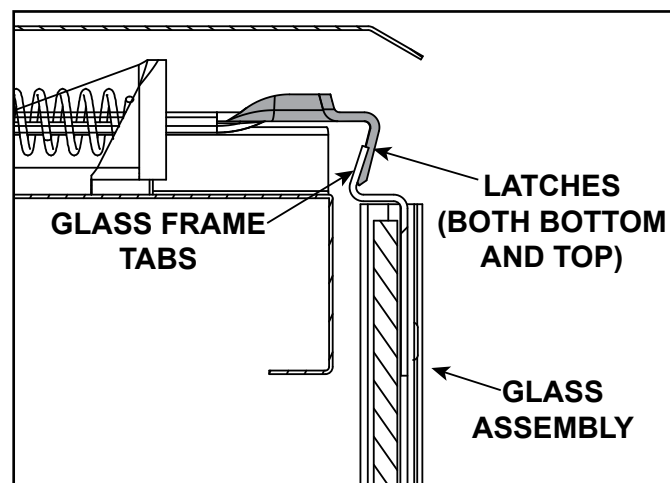

Figure 4.1 Fixed Glass Assembly
- Pull the four glass assembly latches away from the tabs on the glass frame. Remove glass assembly from the appliance. See Figure 4.1.